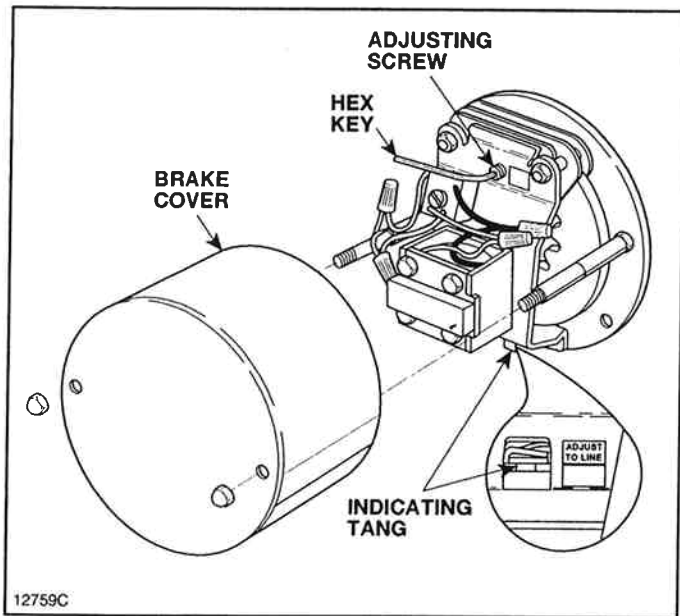

Figure 7-32A. Hoist Motor Brake – Later Version.
(1) Examine position of indicating tang located below the solenoid coil (see fig. 7-32A).
(2) If the tang is below the line by more than 1/8", the brake should be adjusted to bring the top of the tang back up alongside the line on the adjust label.
(3) Remove the hex key (1/8" size) from the holster on the cover mounting stud and carefully turn the ADJUSTING SCREW (located above the solenoid coil) clockwise. The indicating tang will move a large distance for a small turn of the adjusting screw, therefore turn the screw no more than one-quarter turn before checking adjustment.
(4) After adjustment operate the brake by hand to assure brake disc running clearance. The outboard brake pad should separate from the brake disc by approximately .010".
(5) Replace hex key in holster.
(6) Replace brake cover.